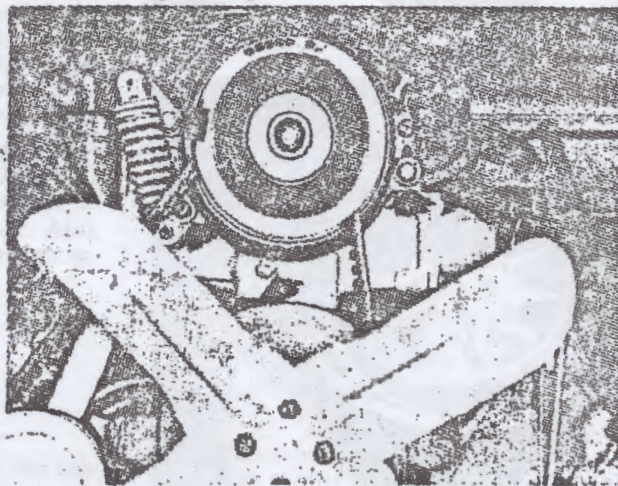

FIG. 115
6. Remove four (4) supercharger to bracket mounting bolts (see Fig. 115) and remove the supercharger from the bracket.